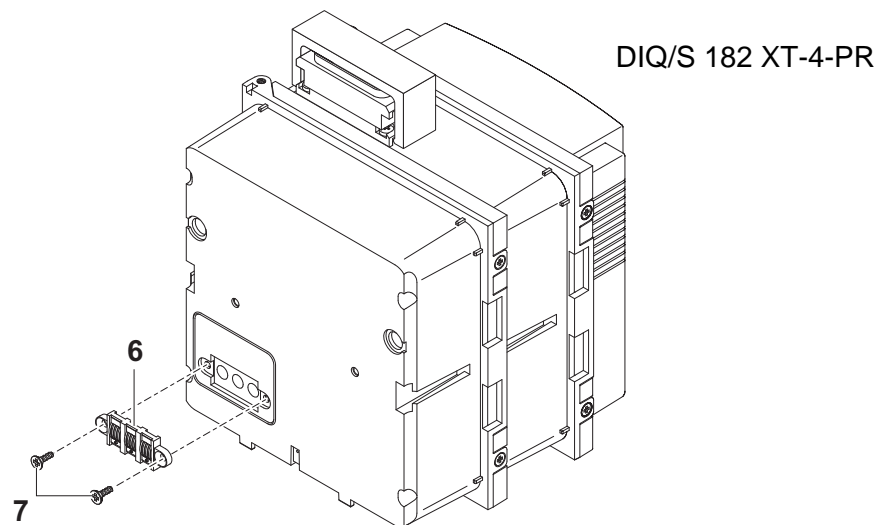

Fig. 3-8 Mounting the contact base (variant 2)
5	Fix the contact base (pos. 6 in Fig. 3-8) onto the DIQ/S 182-XT-4-PR with the two plastic self-tapping screws (pos. 7).